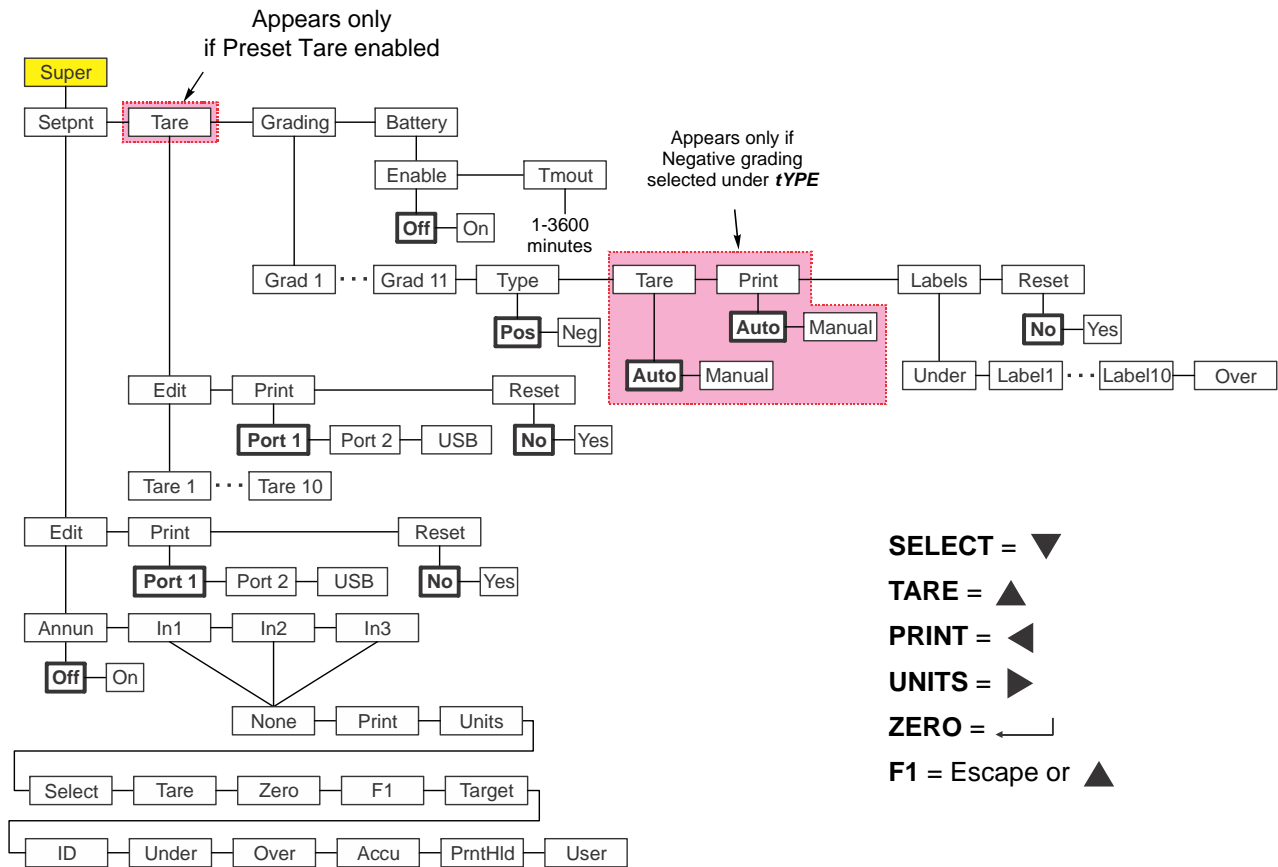

Figure 7.5 Supervisor menu for the Grad375 application
This section applies if the Grad375 application is active. The Grad375 Supervisor menu is shown in Figure 7.5.
4. Press **UNITS** to move to the next label you want to customize. Repeat the steps to customize each label. The list is shown in Figure 7.5.